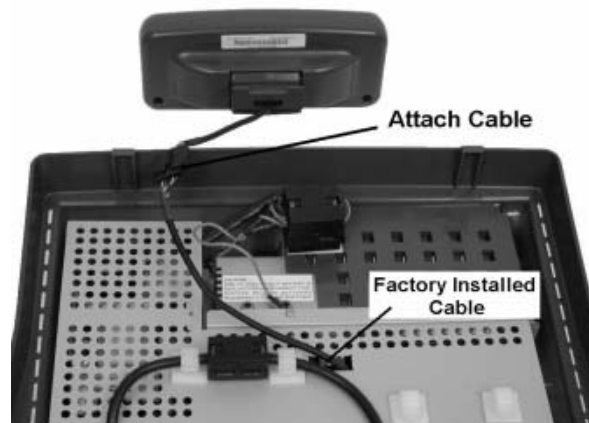

Figure 2-15: Connecting the LCD Customer Display
3. Connect the cable from the LCD Display assembly to the cable protruding through the opening in the shield cover. Figure 2-15. Skip to Step 8,